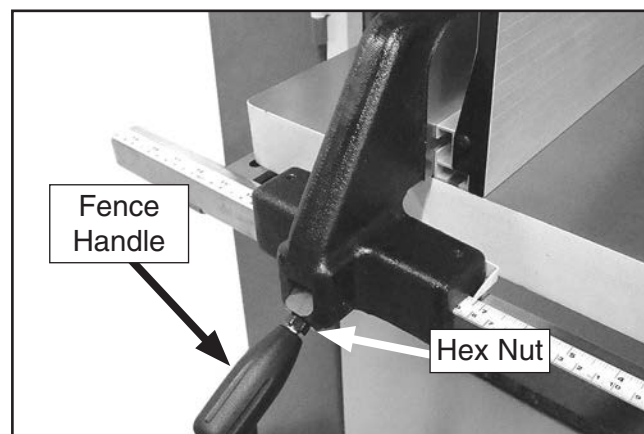

Figure 30. Fence handle components.
4. Thread the fence handle into the fence, then tighten the hex nut against the fence pivot block (see **Figure 30**).